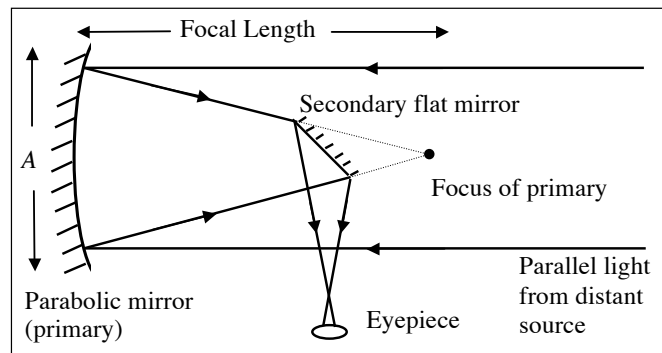

Figure 1 Reflecting telescope
The primary mirror of a reflecting telescope is a paraboloid, which brings parallel light from a distant object to a focus in front of it. It is therefore necessary to move the image out of the incident beam so that it can be observed without obscuring the incoming radiation. In the Newtonian arrangement this is achieved by reflecting the light off a small flat mirror set at 45° to the telescope axis and just in front of the focal plane (see figure 1). The image is then observed by an eyepiece which acts essentially as a microscope.
- Make a scale drawing like figure 1 to see whether this is the case. Make any final adjustments while viewing the distant light source through the eyepiece.